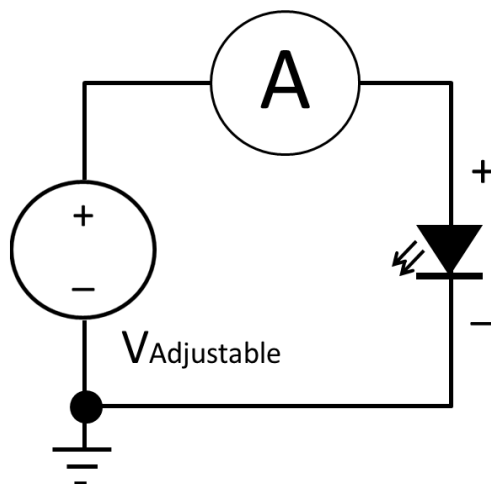

Figure 2: Measuring I-V characteristic of an LED
You will construct the test apparatus that is schematically represented in figure 2. It consists of the benchtop power supply, two meters and an LED. You will program the power supply to output different voltages. The power supply will hold the voltage constant as the current changes (up to a limit of 0.5 amps). An ammeter and voltmeter will be used to measure the current through and voltage across the LED. You will record voltage and current measurements in a spreadsheet and plot the results on the same axes for three individual LEDs.
2. Construct the circuit in figure 2. Use the benchtop multimeter to measure the current. Use your kit multimeter to measure voltage. There are test leads with the appropriate 'banana plugs' to connect to the instruments in bins on the bench. There are banana plug to alligator clip leads and loose clips to connect to the LED. Here is a video about using the bench power supply: <https://youtu.be/p88eX4ib6Xw> Here is a video about how to measure current: <https://youtu.be/8Hzpk82fFPw> **Measuring current may not be as intuitive as measuring voltage. To measure current with the ammeter in the lab you need to insert it into the circuit loop.**